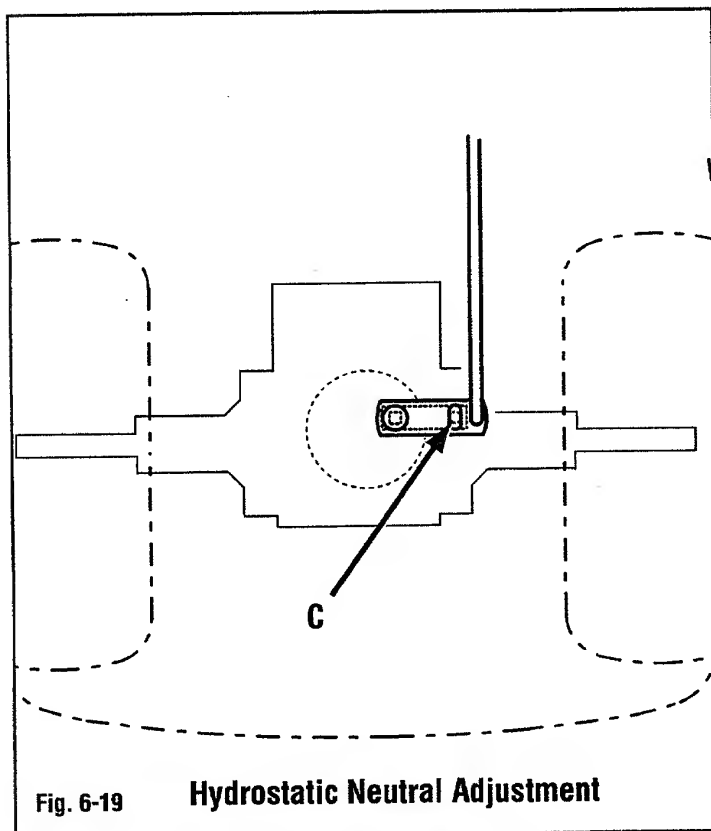

Fig. 6-19
- Loosen hardware (C, Figs. 6-19 and 6-20) securing hydro control arm in place.